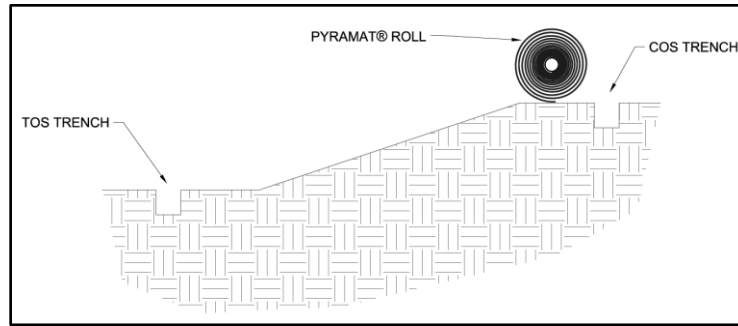
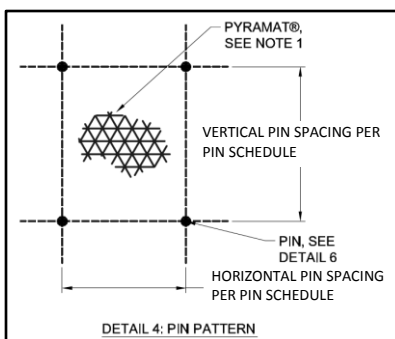
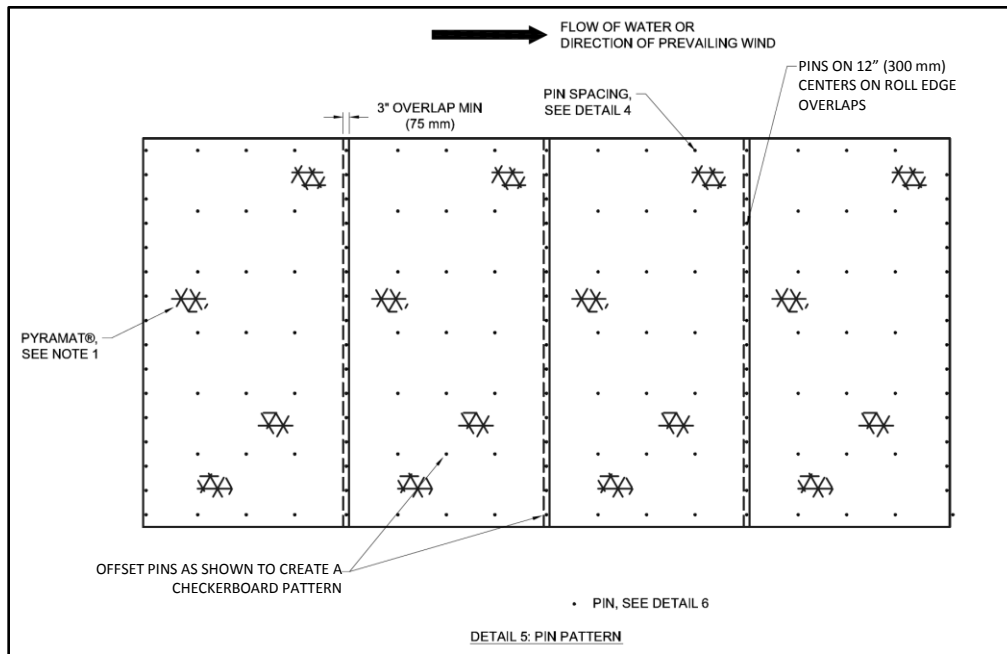

Figure 3: Crest of Slope (COS) Trench Alignment
Figure 7: Example Pin Pattern
Figure 8: Example of Panel Overlap
2. Starting at the COS trench, lay PYRAMAT roll so that the roll ends point towards the crest of the slope (Figure 3), with a 3 in (75 mm) overlap created at adjacent panel edge locations. Ensure that adjacent panel edges maintain a minimum 3 in overlap during *PYRAMAT LAYDOWN* (Figure 8).
6. Secure PYRAMAT panels in place using pins across the slope surface according to the project's engineered design. Pin placement should reflect a checkerboard pattern across the slope surface for best results (Figure 7 and Figure 8).
- Roll edges shall be overlapped a minimum of 3 in (75 mm) with pins placed on 12 in (300 mm) centers (Figure 8).
9. Continue to work down the length of the slope by repeating steps 1 through 8 overlapping each adjacent PYRAMAT panel by 3 in (75 mm) (Figure 8). The last PYRAMAT panel should terminate on the Slope Armoring Edge (SAE) with pins on 12 in (300 mm) centers. At a minimum, PYRAMAT panels should be pinned entirely across the slope surface, pins should be installed in the trenches, and the trenches should be backfilled and compacted at the end of each day to minimize rework in the case of a major rain event.